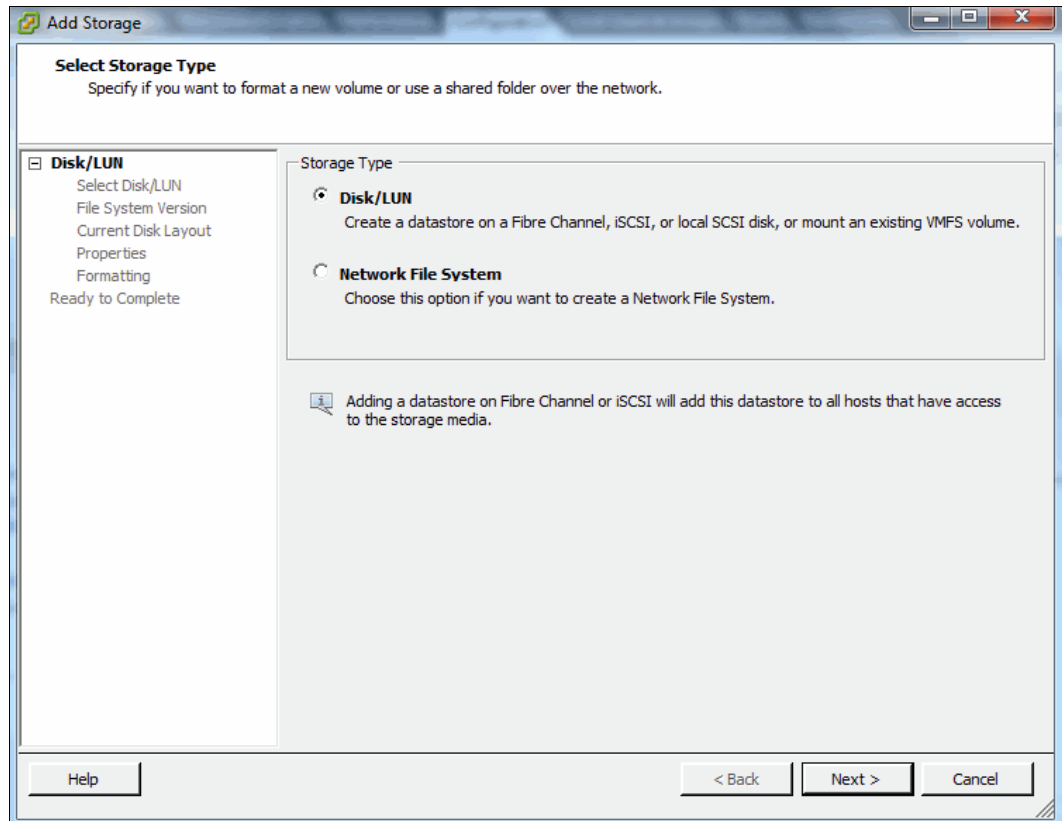

Figure 5-64 The Add Storage wizard
2. To create a new data store, click **Add Storage** to open the Add Storage wizard. The window shown in Figure 5-64 opens. Select **Disk/LUN** and click **Next**.